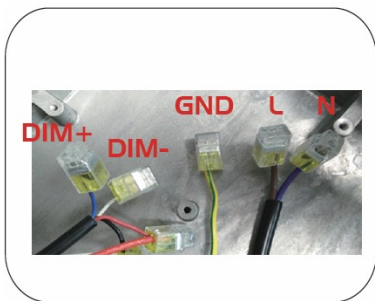

Figure 4.
4. Make electrical connections to the fixture (Black/L-White/N-Green/Gnd) Make sure all connections are correct and properly secured. **See figure 4.**